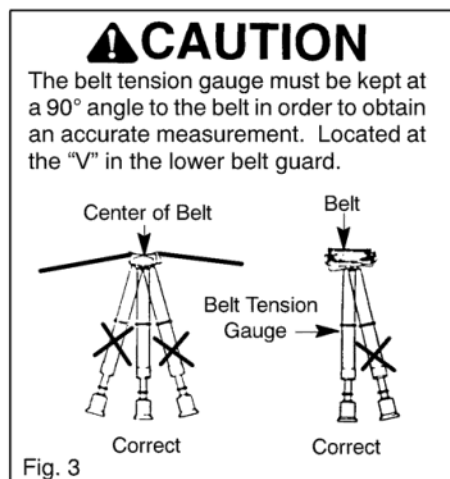

Fig. 3
5. Determine the center of the belt and place the belt tension gauge squarely against the belt (figure 3).